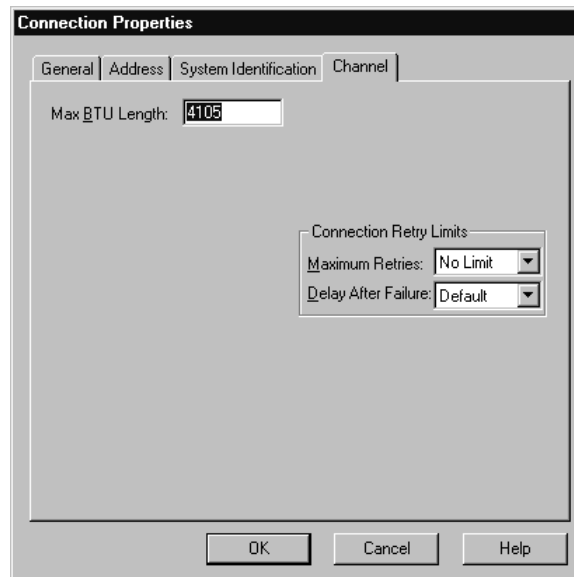

Figure 8-17. Channel Connection Properties
6. Click on the **Channel** Tab (Figure 8-17). Set the parameters on the Channel Screen as follows: